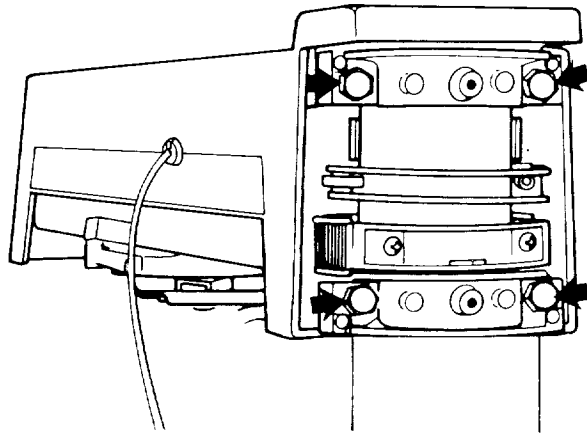

Fig. 179 - Location of Hex Head Tapping Screws
2. With a 9/16 inch wrench or socket tighten evenly the top two 3/8-16 hex head tapping screws. The bottom two screws should also be tightened evenly but not as tight as the top screws. (Figure 179)